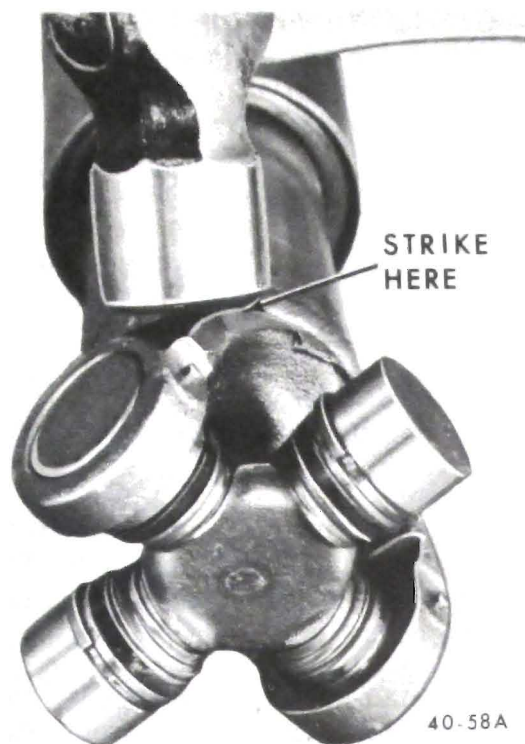

Figure 40-53 Seating U-joint Snap Rings
4. Strike the yoke firmly with a hammer to fully seat the snap rings against the yoke. Turn the spider to make certain that it is free. See Figure 40-53.